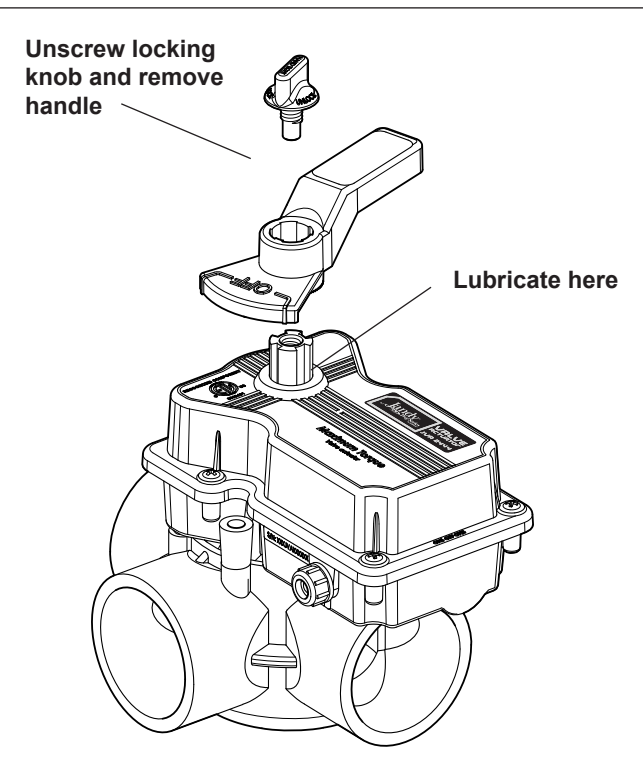

Figure 12. JVA Shaft Seal
2. Remove the locking knob and handle (see Fig. 12).
3. Spread a small amount of Jandy Lube or other silicone base lubricant around the actuator shaft above the lock out ring (see Figure 12).